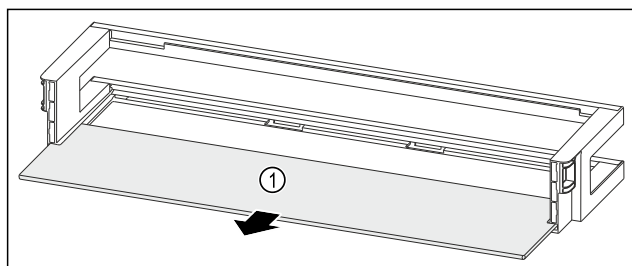

Fig. 130 Door rack with shelf
- ▶ Remove the shelf Fig. 130 (1).